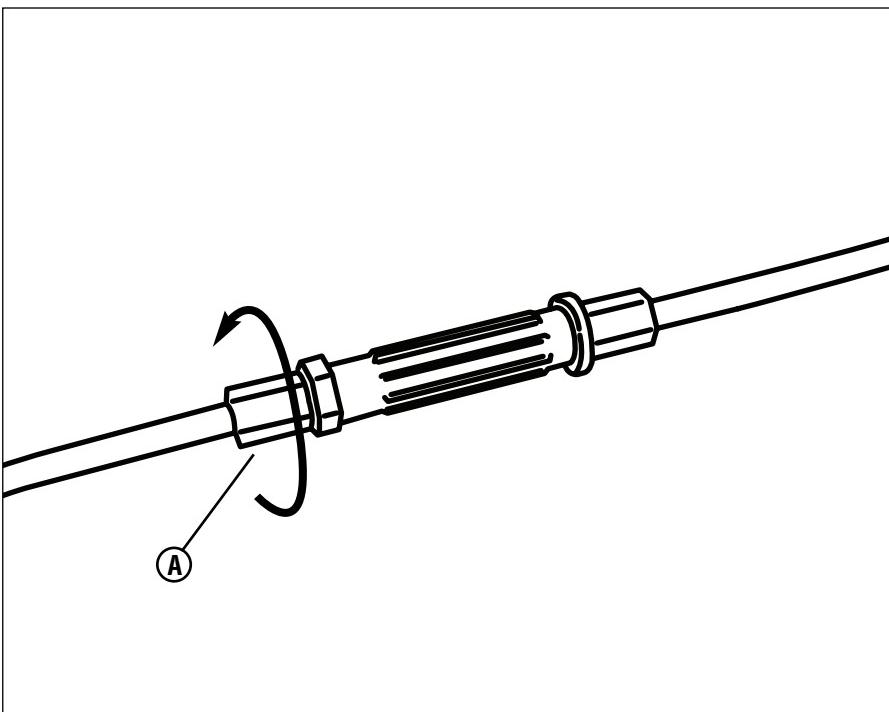

Figure 23: Adjusting the drive cable
1. If the drive system is slipping, turn the cable adjuster (A, Figure 23) in the direction shown. Test the drive system and check for slippage.